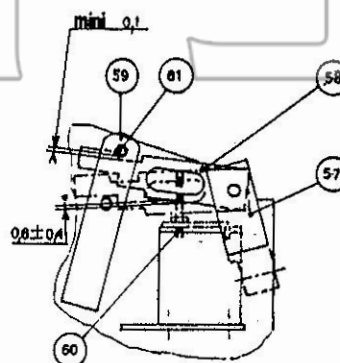

Fig. 23
Holding the striking pin (29) as illustrated in Fig. 23, apply rated voltage to the holding coil, placing release bar in unlatched position. Remove voltage and allow release bar to slowly withdraw observing
NOTE: In order to prevent blocking of the release bar from being reset when breaker opens, it is necessary to return release bar to its latched position by means of the hook illustrated in Fig. 23.
- C. **Undervoltage lockout (Fig. 23).** When the undervoltage release is provided with lockout to prevent breaker reclosing upon voltage restoration, the